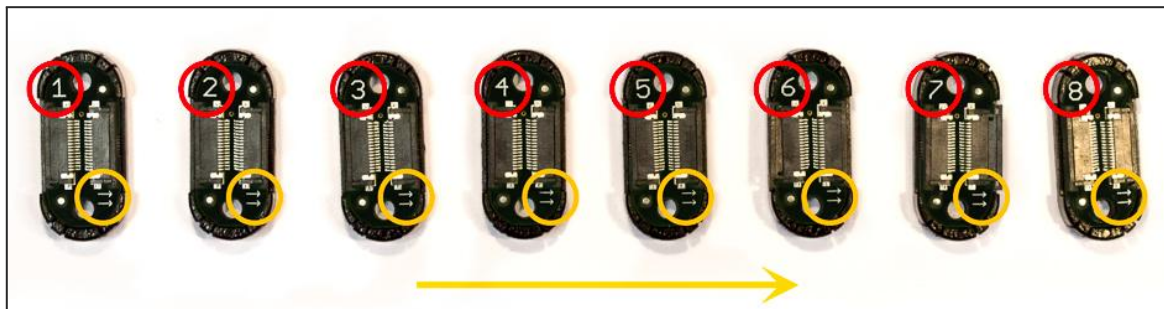

Figure 5. Sensor ascending numeric order
Before connecting, make sure that the sensors are (1) positioned in the correct numeric order and (2) facing the same direction (See Figure 5).
Each sensor is marked with a number (1 to 8), and a direction arrow for connection (Figure 5). Please double-check that the sensor units are placed in ascending order (1, 2, 3, 4, etc.) and that they all face the same direction. In cases when less than 8 sensors are used, always start with the sensor containing the lowest number and then connect subsequent sensors in ascending numeric order.